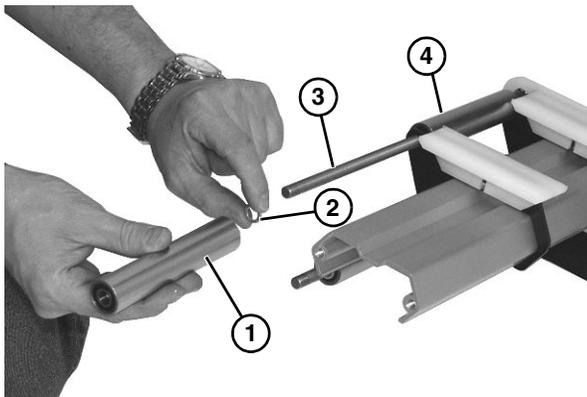

Figure 53
- Remove roller assembly (**Figure 53, item 1**) and washer (**Figure 53, item 2**) from axle shaft (**Figure 53, item 3**).
- Remove remaining roller assembly components (**Figure 53, item 4**) on opposite side.